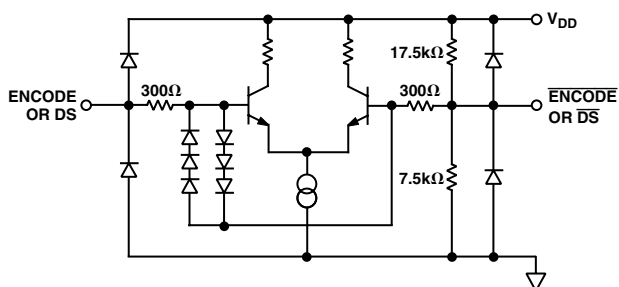

Figure 5. Equivalent ENCODE and Data Select Input Circuit
3tv and tPD are measured from the threshold crossing of the ENCODE input to valid TTL levels of the digital outputs. The output ac load during test is 5 pF (Refer to equivalent circuits Figures 5 and 6).
ENCODE and Data Select (DS) can be driven differentially or single-ended. For single-ended operation, the complement inputs ( $\overline{\text{ENCODE}}$ ,  $\overline{\text{DS}}$ ) are internally biased to  $V_{DD}/3$  (~1.5 V) by a high impedance on-chip resistor divider (Figure 5), but they may be externally driven to establish an alternate threshold if desired. A 0.1  $\mu\text{F}$  decoupling capacitor to ground is sufficient to maintain a threshold appropriate for TTL or CMOS logic.
Note the 6-diode clock input protection circuitry in Figure 5. This limits the differential input voltage to  $\sim \pm 2.1$  V. When the diodes turn on, current is limited by the 300  $\Omega$  series resistor. Exceeding 2.1 V across the differential inputs will have no impact on the performance of the converter, but be aware of the clock signal distortion that may be produced by the nonlinear impedance at the converter.